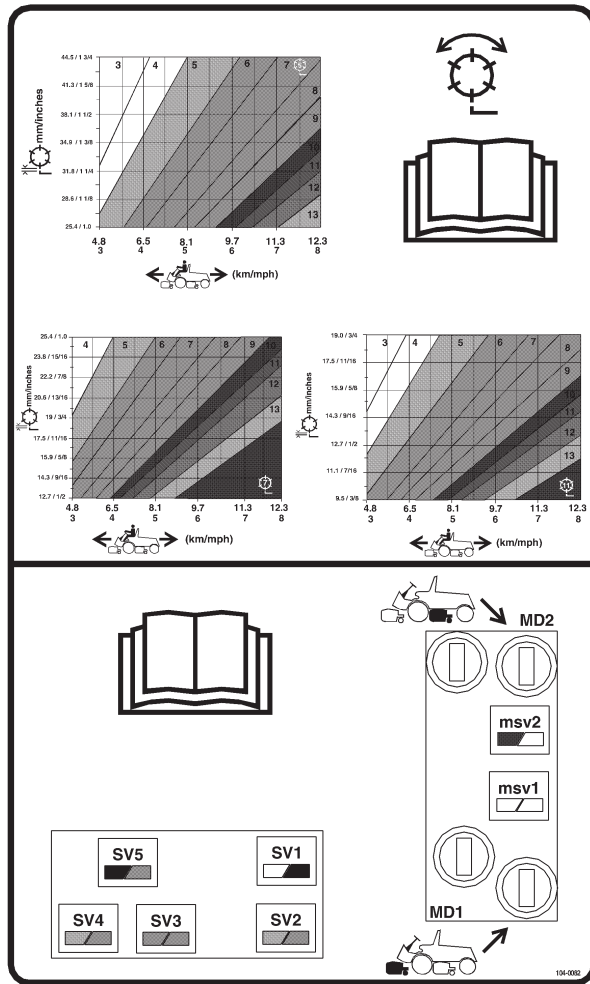

Figure 24
- Using the appropriate graph (See graph figure 24) for 5, 7 or 11 blade cutting units, determine the proper reel speed setting.